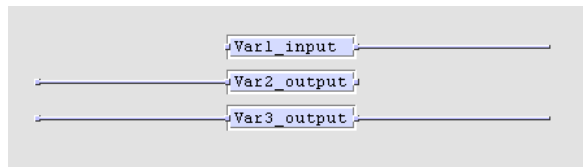

Figure 97: Direction of global variables
- The direction of the variable is determined based on the graphical representation, shown in Figure 97.